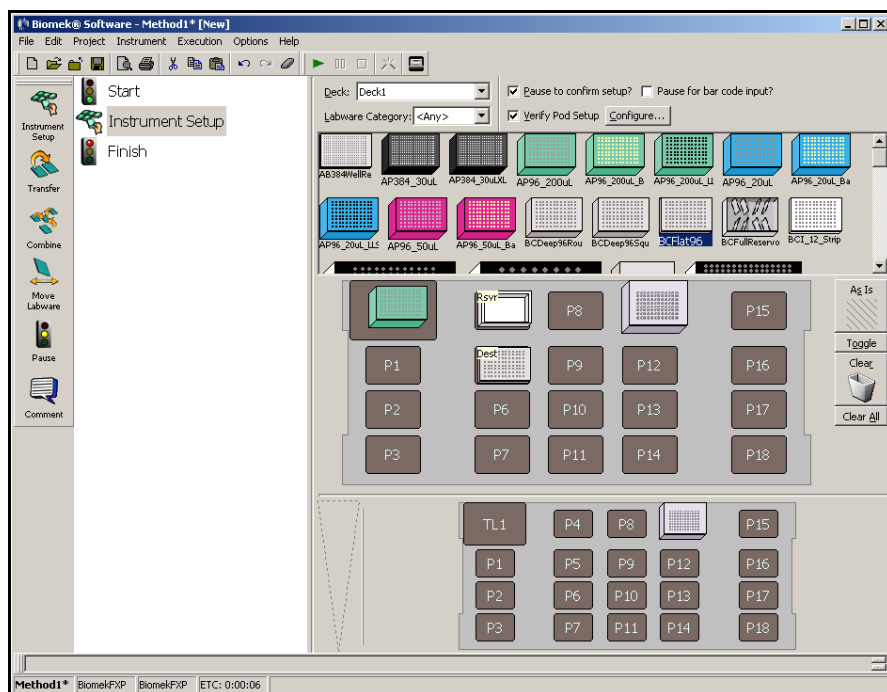

Figure 1-7. Instrument Setup step completed
4. In **Labware Properties**, you can give the reservoir a name. You'll name this one "Rsvr," but in general you can assign labware any name you want. Type **Rsvr** in the **Name** field. After configuration is complete, the name will appear over the reservoir in the Current Deck display (Figure 1-7).
That's it. Your deck is now set up for transferring liquid, and the main editor should look like Figure 1-7.